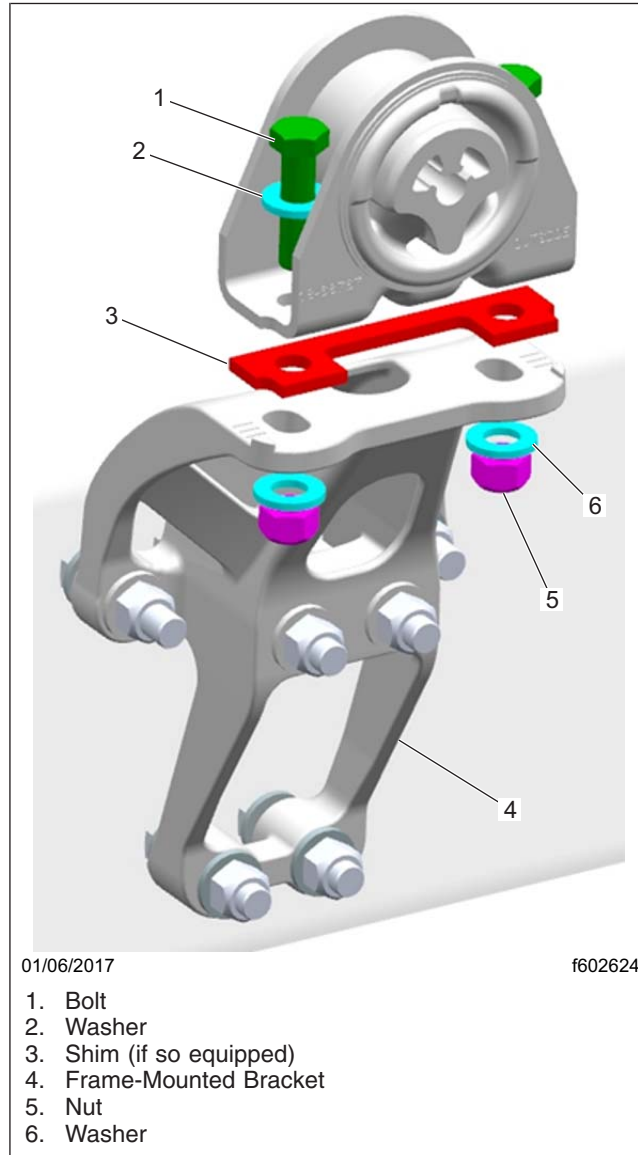

Fig. 4, Cab Mount Isolator Installation
7. Remove and discard the bolts, nuts, and washers that attach the cab-mount isolator to the frame-mounted bracket. Remove and discard the isolator. See Fig. 4.